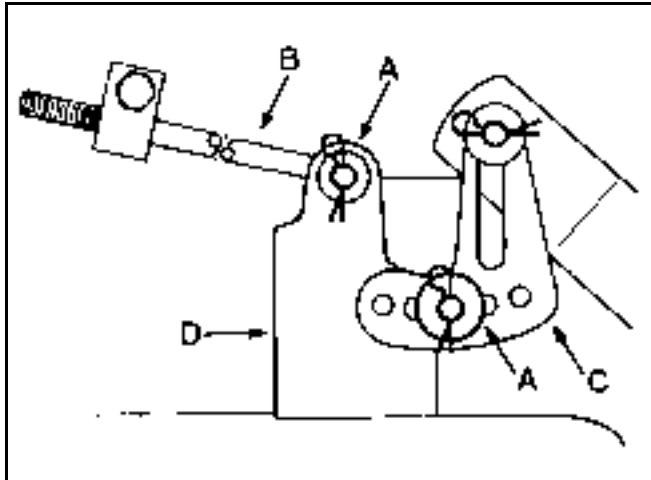

Figure 218
7. Slide the end of the long rod through the hole in the mower mount (Figure 218). Install the washer and hairpin cotter to secure the rod in place. Repeat this step on the opposite side of the mower.
8. Mount the slotted mower leveling bracket onto the pin on the height-of-cut arm (Figure 218). Install the washer and hairpin cotter to secure the mower. Repeat this step on the opposite side of the mower.